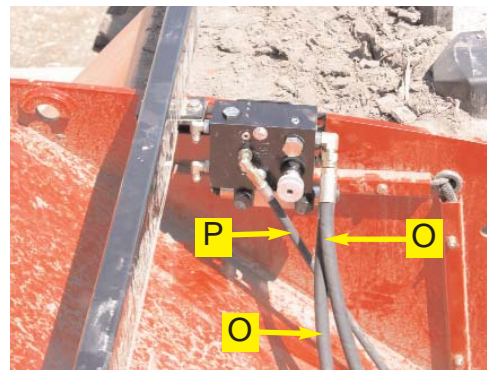

Figure 5a. Installed pressure, tank and load sense hoses.
- a. Connect the pressure hose (**O**) between the **P** port of the automated steering block and the run tee (**H**) installed on the left side of the hydraulic valve stack. (Figure 5a. and 5b.)
- b. Connect the tank hose (**O**) from the **T** port on the automated steering block to the run tee (**H**) on the right side of the hydraulic valve stack. (Figure 5a. and 5c.)
- c. Connect the load sense hose (**P**) from the **LS** port on the automated steering block to the open end of the load sense shuttle (**J**). (Figure 5a. and 5b.)